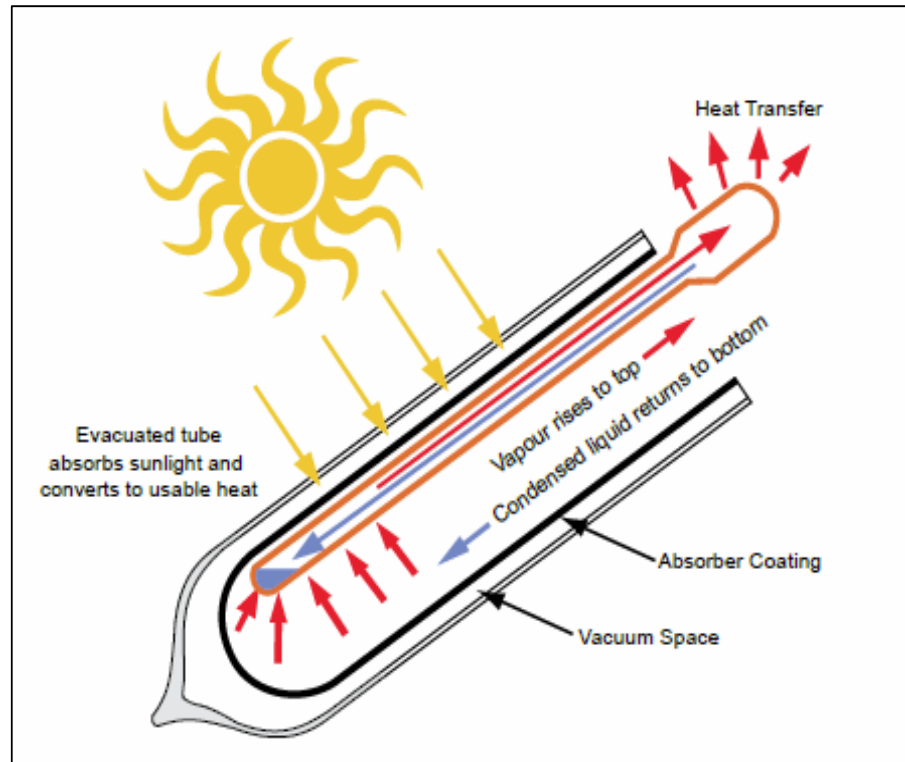

Figure 2 Evacuated Tube Function
3. The vacuum in the tube acts the same as a thermos flask, keeping the heat inside and ensuring it is delivered to the water, not lost to the air. Though the glass may be cool to the touch, inside, the system may be reaching temperatures up to 100°C. Refer to Figure 2.